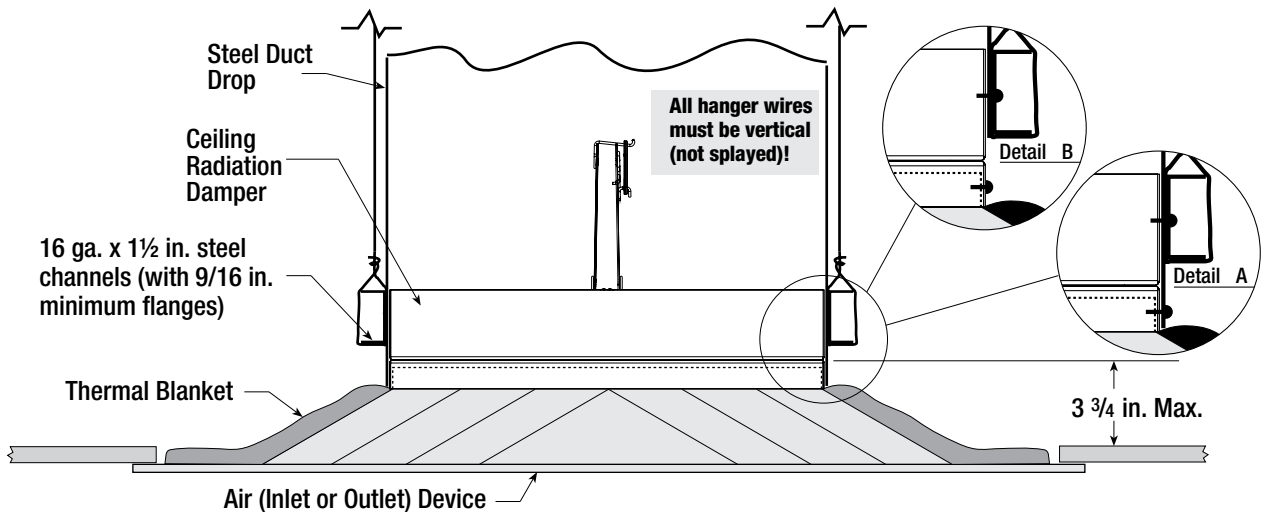

Figure 8
1. Ceiling radiation damper and air device neck may be connected directly to the duct drop (See Detail A, Figure 8).
2. Ceiling radiation damper may be connected directly to the air device neck and then the duct drop connected to the damper (See Detail B, Figure 8).
Models CRD-1, CRD-1LP, CRD-2, and CRD-60 may be installed as shown in **Figure 8** (Model CRD-1 & CRD-1LP Illustrated).